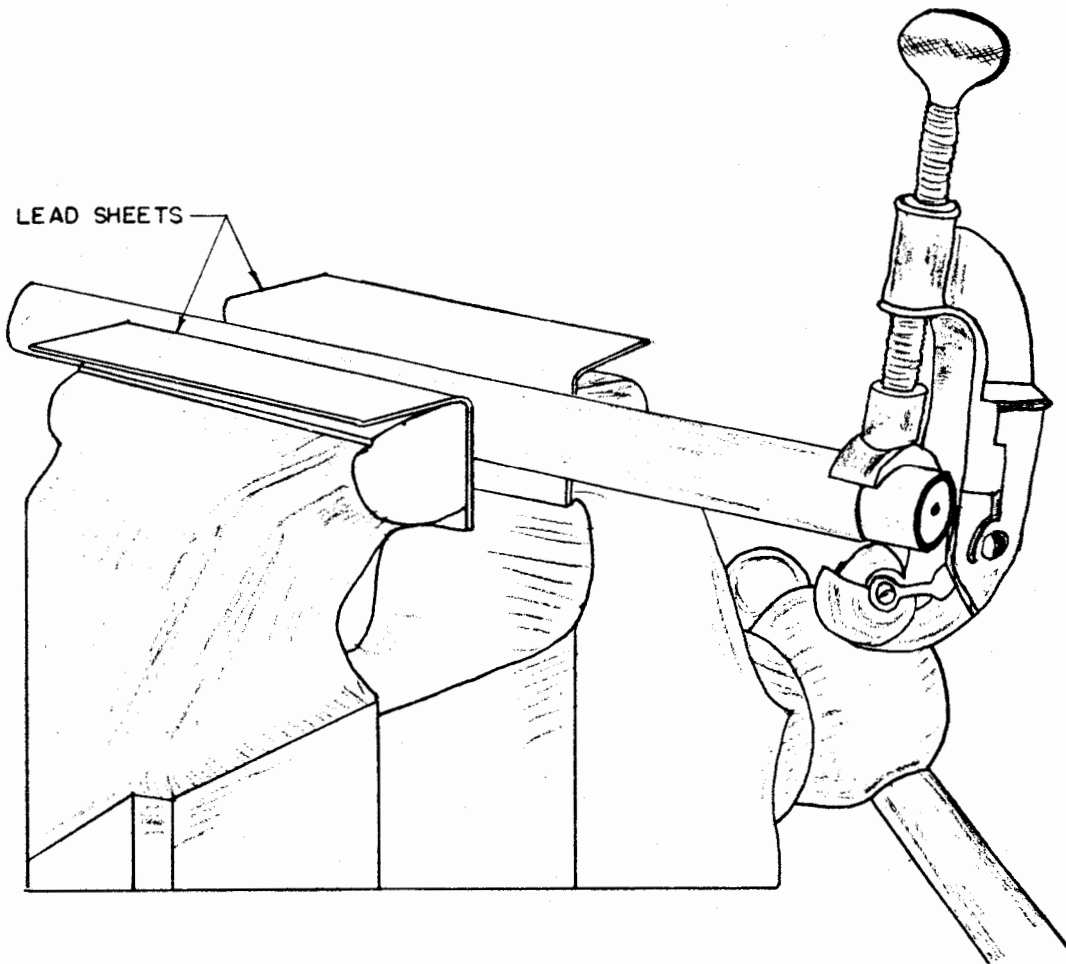

Figure 11-107. Cutting Outer Conductor of RG-82/U with Tube Cutter
(1) Straighten the Pyrotanax and clean the outer surface with a fine-grit emery cloth.
(2) On the outer conductor, make a pencil mark at the place to be cut. This mark corresponds to the necessary length of cable.
(3) If the inner conductor is to extend beyond the outer, measure the amount of this extension and cut through the cable at this point with the tube cutter and hacksaw, or hacksaw alone. If the inner conductor is to be flush with the outer, the cable should be cut through in the same way but about 1/2 inch longer than the necessary length originally marked in step (2) above.
(4) Now cut into the outer conductor with the tube cutter at the point already marked in step (2) to a depth not more than halfway through the copper wall (Figure 11-107).